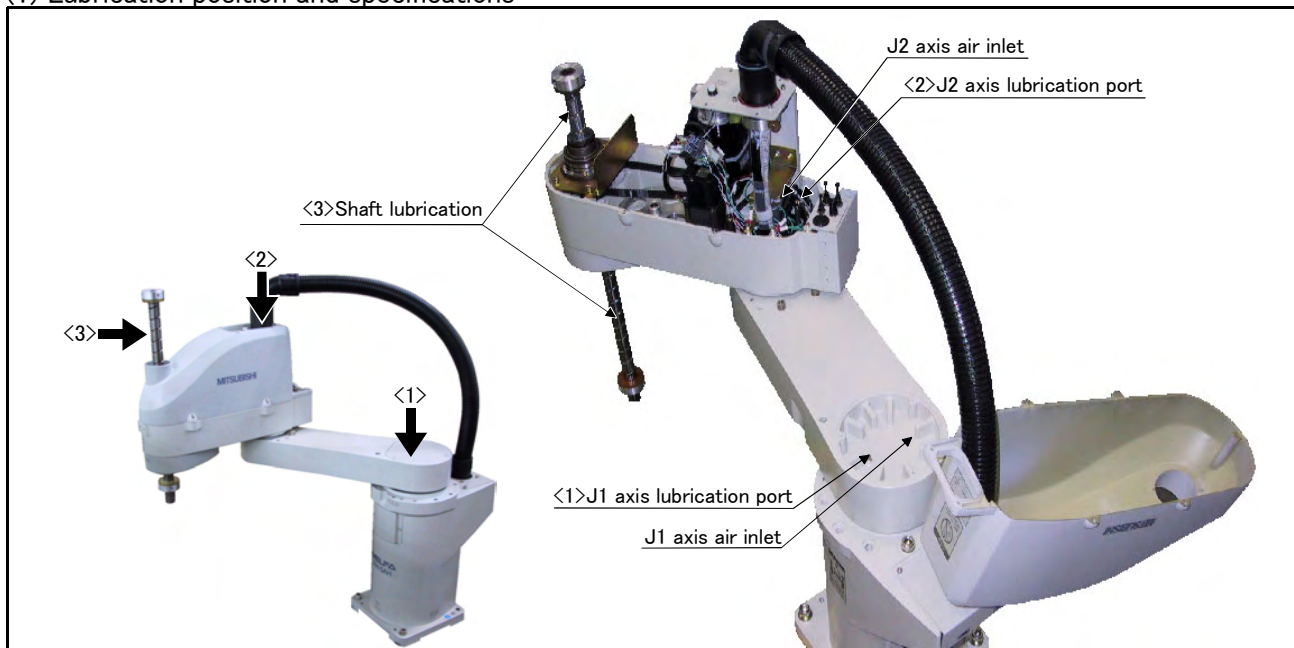

Fig.5-12 : Lubrication positions
The grease nipple position is shown in Fig. 5-12. The lubrication specifications for each place are shown in Table 5-4. When lubricating, remove the covers that need to be taken off by refer to “Fig.5-3 : Installing/removing the cover”.
- The numbers in the correspond to the supply positions in Fig. 5-12.
(2) Lubrication method to the J1, J2 axis